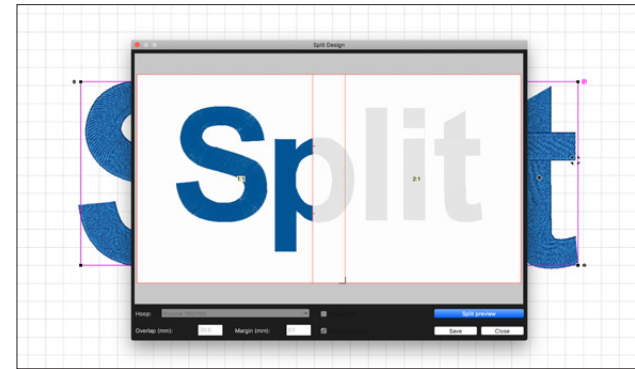

Figure 68
3. Next, click on Split Preview to see which part of the design will embroider on one hoop and which part will embroider on the other. **See Figure 68.**